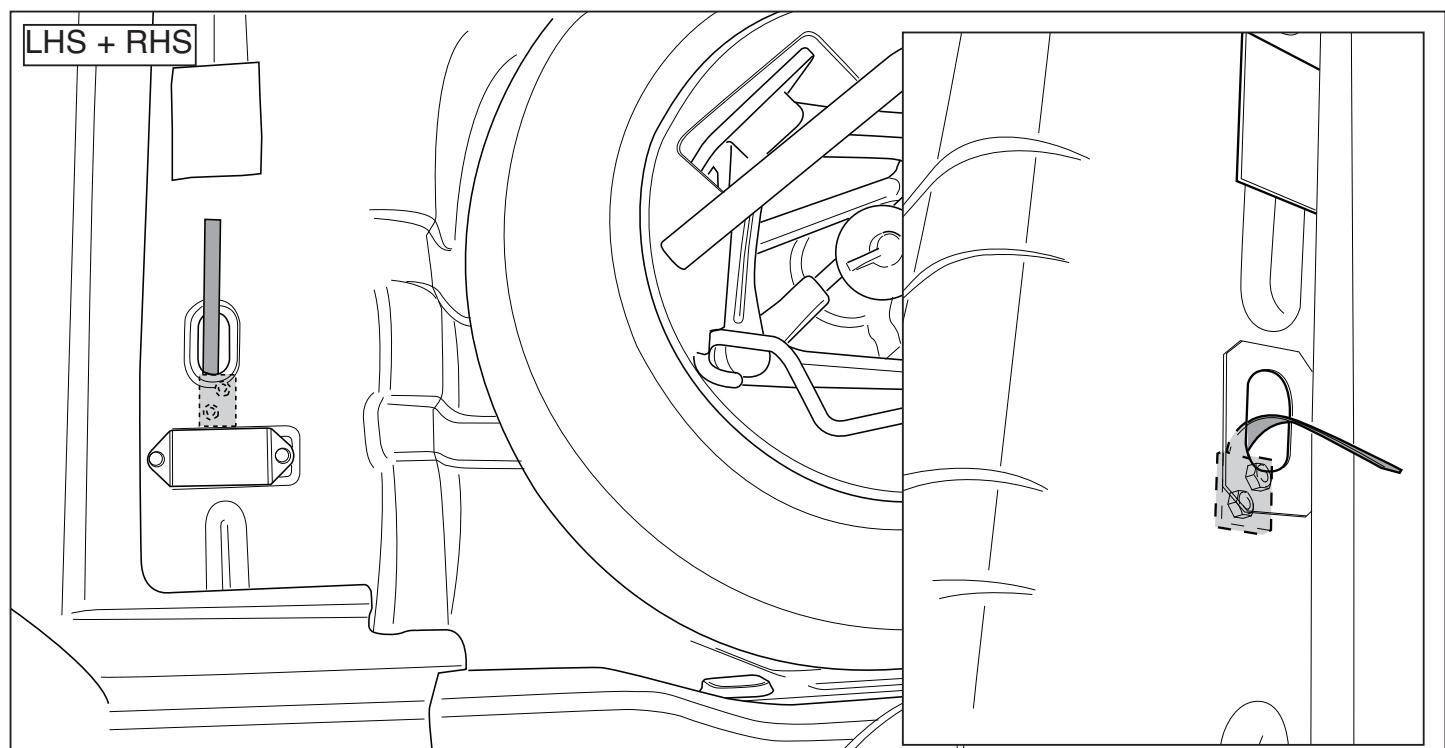

Fig.4
5. Position the backplates as shown in figure 4.